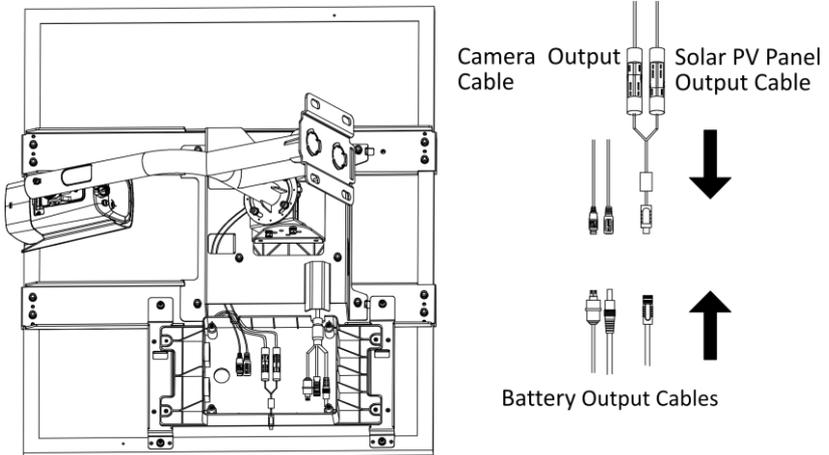

Figure 3-8 Connect Cables
6. Thread the solar panel output cable and the battery output cable through the holes of the wire box, and thread the power cable and RS-485 cable of the camera through the via holes of the shift panel and wire box. Connect the cables, as shown in Figure 3-8. Wrap the joint position with waterproof tapes for sealing.